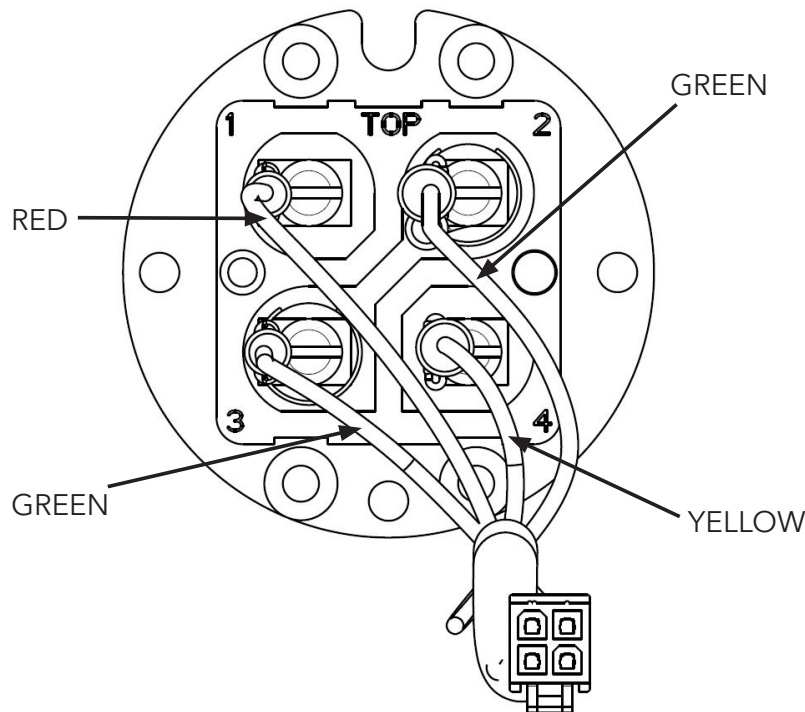

Figure 5
2. Using a flat blade screwdriver remove the two screws (marked 2 and 3) on the Number 11 switch, see **Figure 5**.
4. Insert the RED wire connector onto terminal 1, see **Figure 5**.
5. Insert the YELLOW wire connector onto terminal 4, see **Figure 5**.